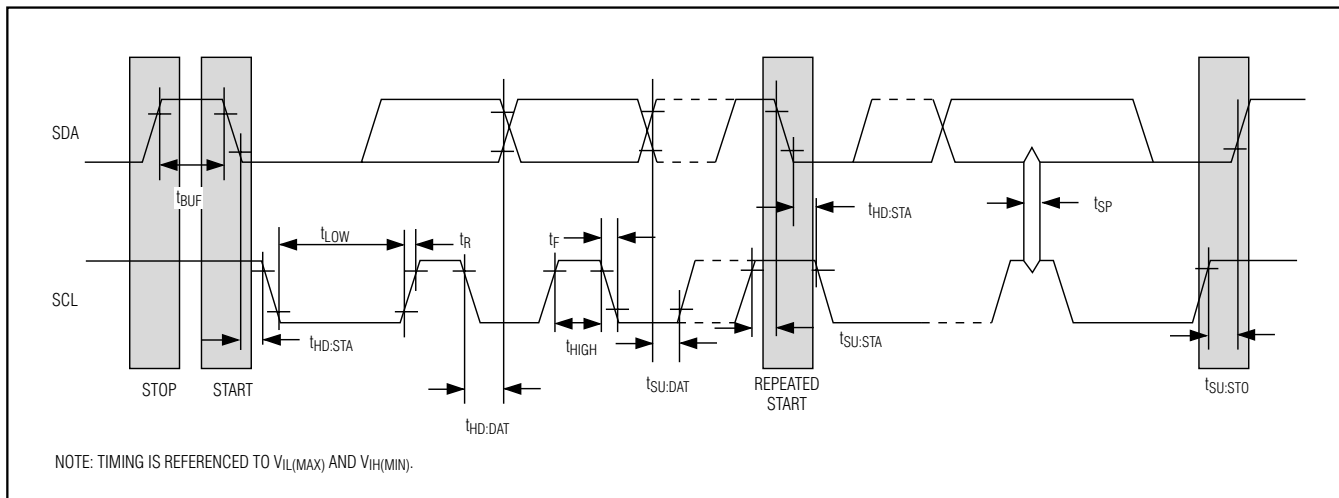

Figure 4. I2C Timing Diagram
**Bit Write:** Transitions of SDA must occur during the low state of SCL. The data on SDA must remain valid and unchanged during the entire high pulse of SCL plus the setup and hold-time requirements (see Figure 4). Data is shifted into the device during the rising edge of the SCL.
setup time (see Figure 4) before the next rising edge of SCL during a bit read. The device shifts out each bit of data on SDA at the falling edge of the previous SCL pulse and the data bit is valid at the rising edge of the current SCL pulse. Remember that the master generates all SCL clock pulses including when it is reading bits from the slave.
receiving data (the master during a read or the slave during a write operation) performs an ACK by transmitting a zero during the 9th bit. A device performs a NACK by transmitting a one during the 9th bit. Timing (Figure 4) for the ACK and NACK is identical to all other bit writes. An ACK is the acknowledgment that the device is properly receiving data. A NACK is used to terminate a read sequence or as an indication that the device is not receiving data.